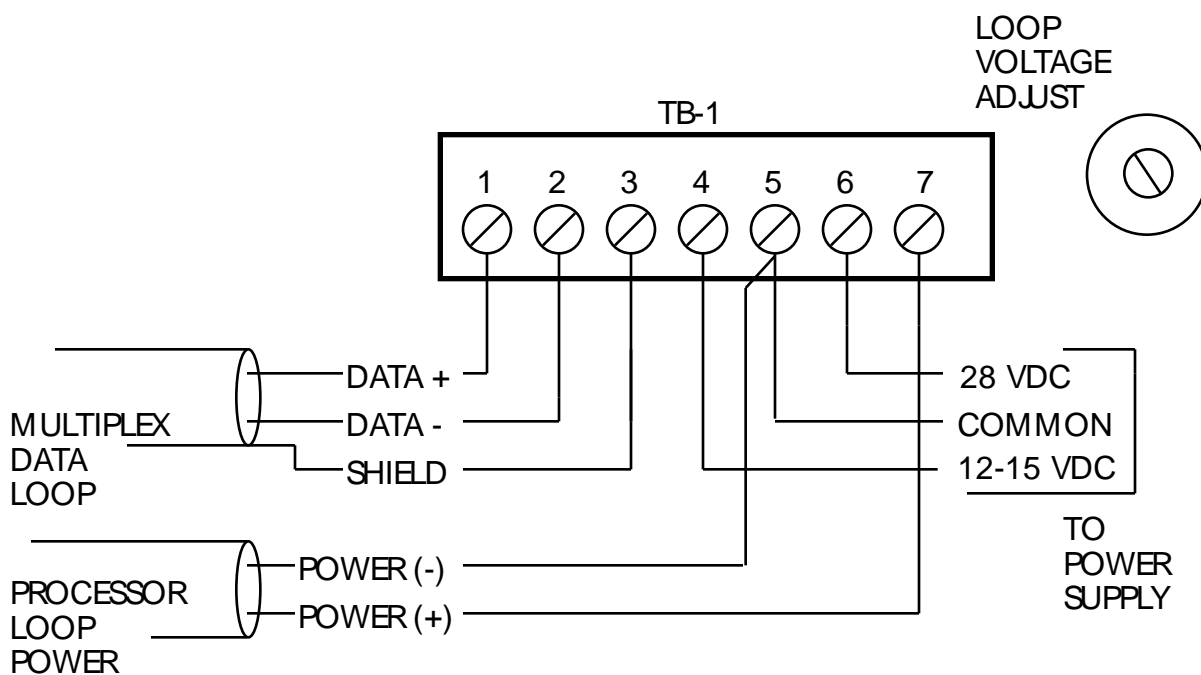

Figure 3-7
- 3.5.2 The data line and power supply connections are made to terminal board TB-1 located on the left edge of the remote controller circuit board. Figure 2-2 shows the location of the terminal board. Figure 3-7 shows the typical connections to TB-1.